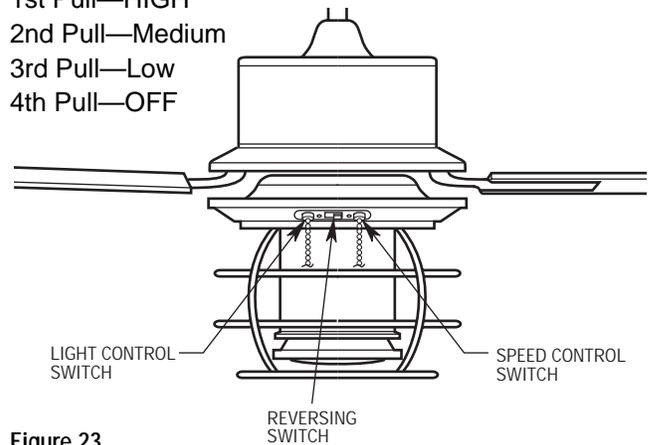

Figure 23
- 2. Check the operation of the fan by gently pulling on the speed control pull chain switch (Figure 23). The operating sequence is as follows: